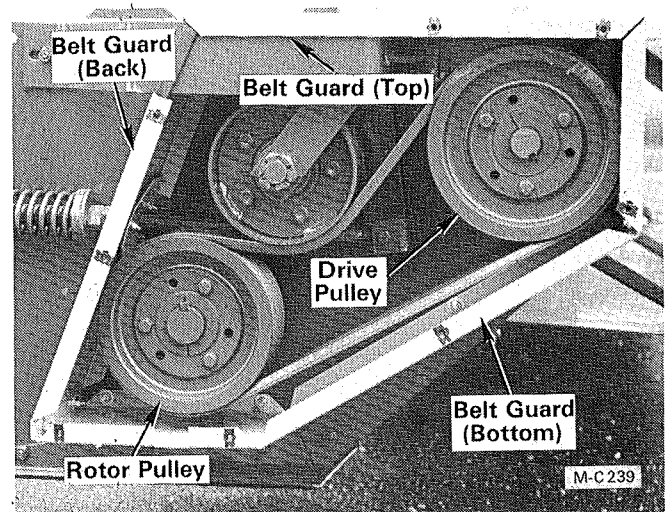

Figure 1
2. Remove the belt guard cover, output shaft bearing lubrication hose and the top belt guard, see Figure 1.
16. Install the top belt guard, output shaft bearing lubrication hose and belt guard cover, see Figure 1.